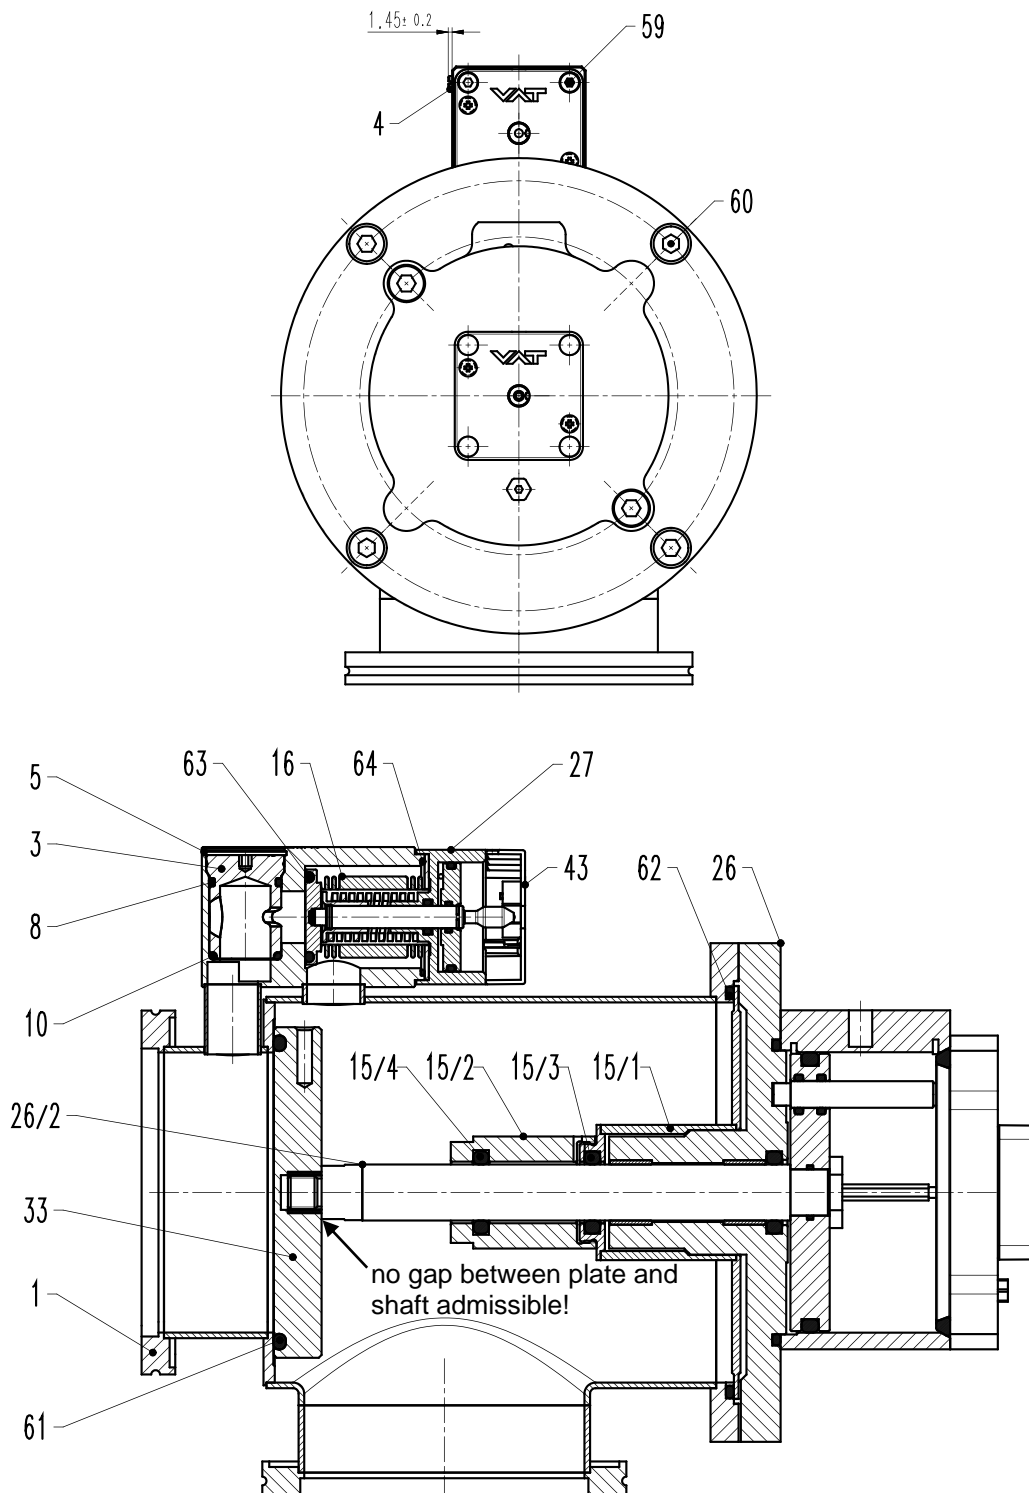

Figure 6-2
The following item numbers in brackets refer to «Figure 6-2» on page 17.
The follow item numbers in brackets refer to «Figure 6-2» on page 17.
7. Apply 0.20 g vacuum grease on the thread of the actuator shaft (26/2) and screw the plate (33) to the actuator shaft.
There must not be a gap between the plate (33) and shaft (26/2); see «Figure 6-2» on page 17.
The item numbers in brackets refer to «Figure 6-2» on page 17.